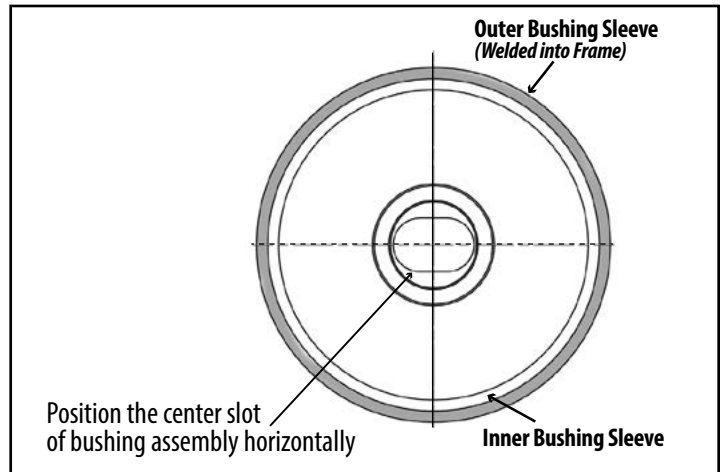

Figure 13.
1. Grind away the four (4) welds on each side of the outer bushing sleeve. Remove pivot bushing from frame. Inspect outer bushing sleeve for wear/damage. Repair or replace sleeve as needed.
2. Position (center) replacement bushing assembly in the outer bushing sleeve. Align the bushing assembly center slot horizontally (Figure 13).
Check “C” and “D” axle alignment measurements to verify the difference does not exceed 1/16-inch tolerance (Fig 13).